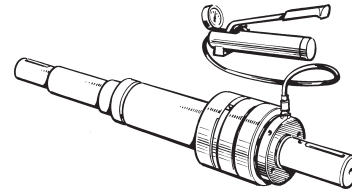

Fig. 14 Bearing Assemblies 5F and 6F
3. With the aid of a hydraulic nut the bearings and spacing rings are then forced together, see Fig. 14. Use type HMV 18 hydraulic nut for Bearing Assembly 5F and type HMV 22 for size 6F. The force is 25MPa or 10-15 Tons. (Note - It is not possible to achieve satisfactory contact between the parts by using the bearing nut.)